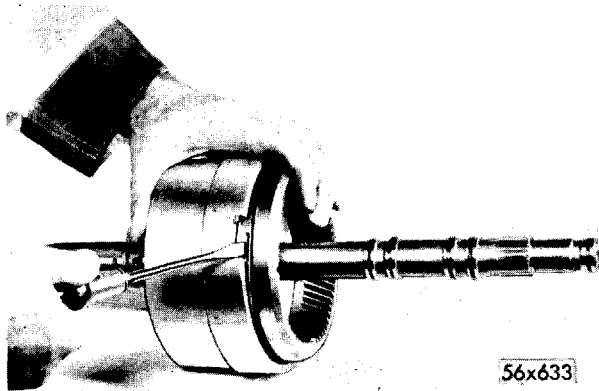

Fig. 61—Removal and Installation of Output Shaft Drive Housing Snap Ring
(1) Using a screw driver, remove output shaft drive housing snap ring, Figure 61. Refer to Figure 62 and complete disassembly of unit as follows:
(2) Remove reverse annulus gear (B) from output shaft assembly (K).
(3) Remove thrust plate (C) from kickdown planet pinion carrier (F).
(4) Remove intermediate shaft (D) and kickdown planet pinion carrier assembly (F) from output shaft assembly (K).
(5) Remove output shaft thrust washer (E) located inside housing.
(6) Remove kickdown planet pinion carrier assembly (F) from intermediate shaft assembly (D). **The kickdown planet pinion carrier assembly used in this unit is identical to the low-reverse planet pinion carrier assembly used in Unit No. 2, but should not be interchanged due to wear patterns.**
(7) Remove bronze K/D carrier thrust washer (G).
(8) Remove sun gear roller type thrust washer (H) from intermediate shaft assembly (D).
(9) With a screw driver, remove kickdown annulus gear snap ring (I) and separate gear (J) from intermediate shaft assembly (D).